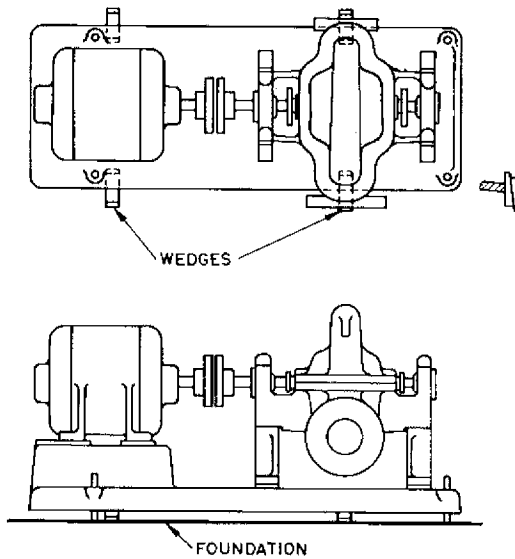

Figure 3
3. Put the unit in place on wedges. The wedges should be placed at four points as shown in Fig. 3. Some long installations may require additional wedges near the middle of the bedplate.